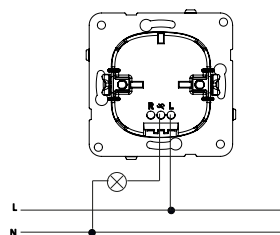
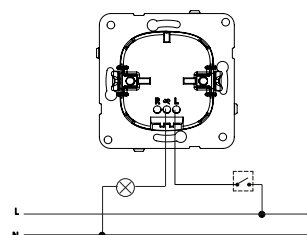
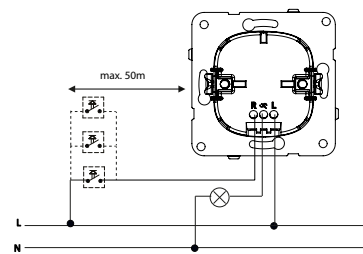

Figure 1
Figure 2
Figure 3
- 1- Remove the Universal Dimmer upper group (3) and the frame (2) by pulling.
- 2- Do cable connection of the Universal Dimmer base (1) accordance with connection diagram (Figure 1, Figure 2 or Figure 3) depending on the respective operation type.
- 3- Insert the Universal Dimmer base (1) into the slot on the wall and secure it by tightening the claw screws (4) with a suitable screwdriver.
- 4- Place the Universal Dimmer upper group (3) in the frame (2).
- 5- Insert the Universal Dimmer upper group (3) and frame (2) by pushing to secure to the claw slots (4).
The connection should be made as in figure 3.